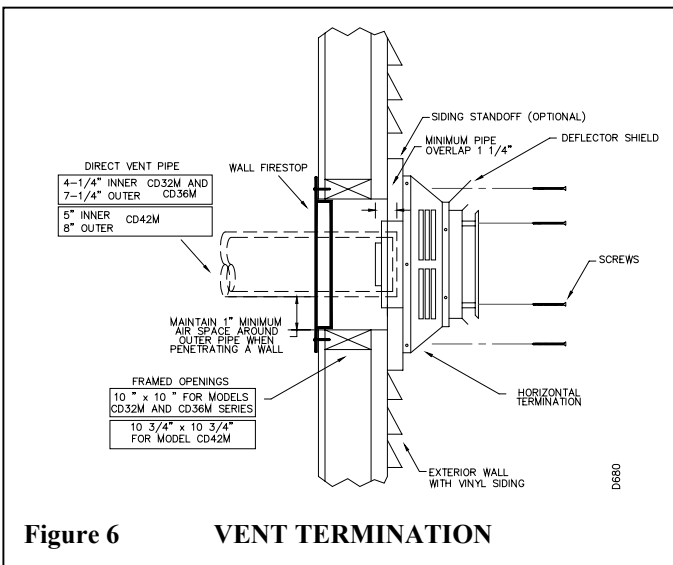

Figure 6 VENT TERMINATION
5. Depending on the wall thickness, allow one inch to protrude from internal wall as shown in figure 6.
7. An optional siding standoff may be installed between the vent cap exterior wall. Secure horizontal top to standoff and then secure the complete assembly to wall (see figure 6). The vent termination must be removable for service pipe inspection.